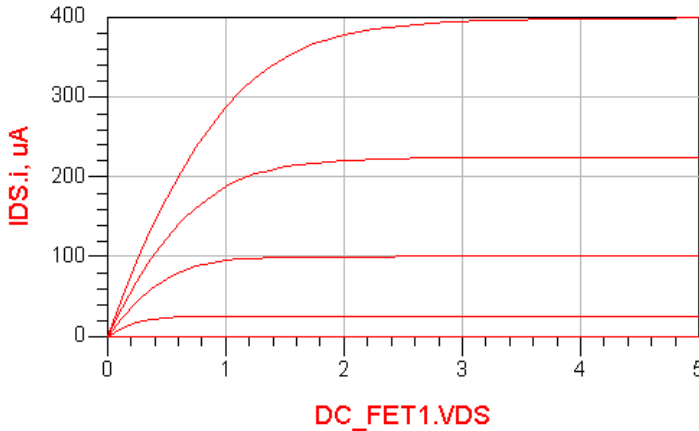
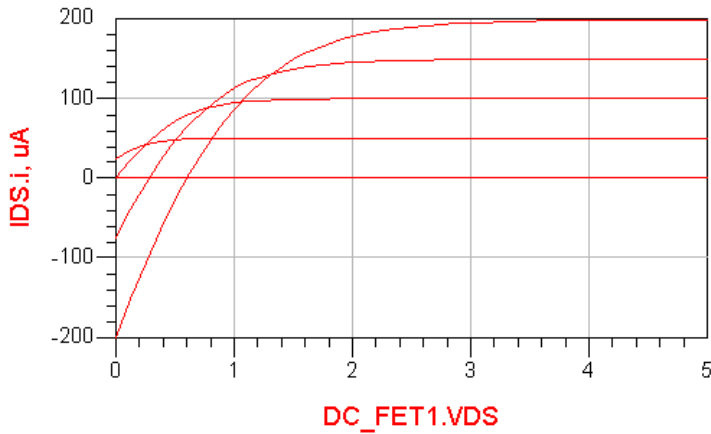

Figure 1-3. PSFET DCIV Results
Figure 1-4. PSFETV_DCIV Results using Power Law Relation of $q/2$
7. After the simulation is complete, open the Data Display *TestBench.dds* window if necessary. The display consists of a rectangular plot with a trace of the **IDS.i** data. Your results should look similar to Figure 1-3.
The Data Display window now shows very different results (see Figure 1-4) compared to Figure 1-3, demonstrating that the modification to the equation did indeed take effect.